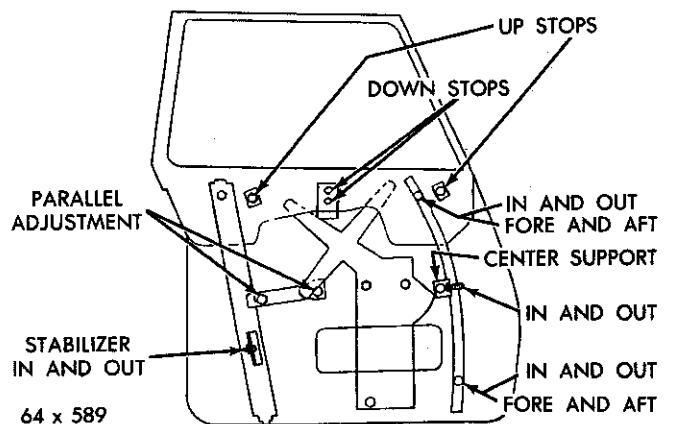

Fig. 16—Rear Door Glass Adjustments (Imperial)
(12) Raise and lower the glass a couple of times and test for proper fit.
16. REAR DOOR GLASS ADJUSTMENT (Hardtop) (Imperial Models) (Fig. 16)